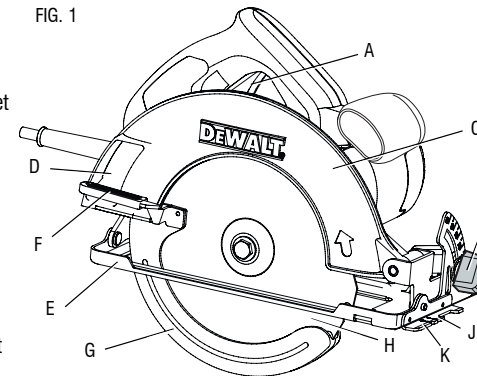

FIG. 2
- L. Depth adjustment knob (Fig. 2)
- M. Parallel fence (Fig. 2)
Depth of cut adjustment (Fig. 2, 3)
Shoe adjustment for 90° cuts (Fig. 2)